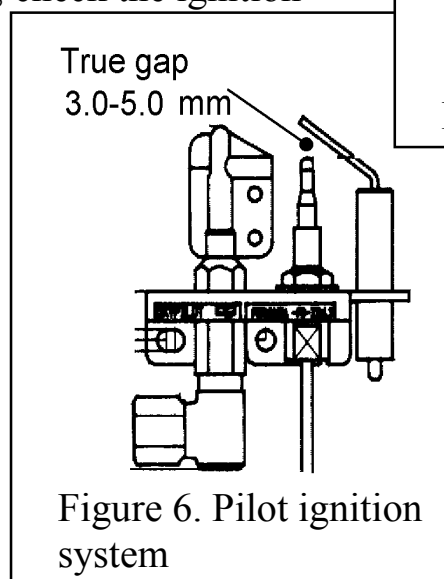

Figure 6. Pilot ignition system
- b.* Check spark gap between electrode wire and thermocouple tip (see figure 6).